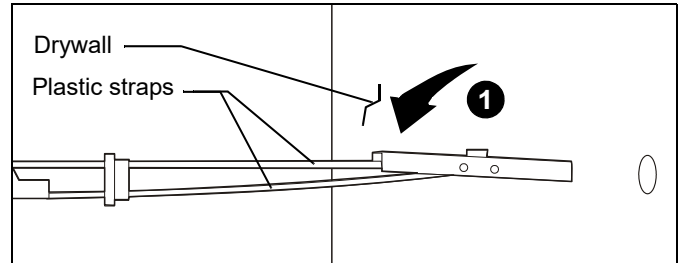

**Figure 28**
1. Install one UX10X60R anchor (G) into each pilot hole using a hammer, making sure that the anchor is flush with the wall. (See Figure 28)
2. Use one 5/16" x 2-1/2" hex flange head lag bolt (F) and one 5/16" washer (K) through product into each anchor in wall. (See Figure 28)